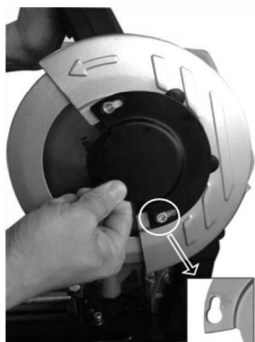

Fig. 8
1. Loosen and remove the screws for the shield guard (Fig. 8).